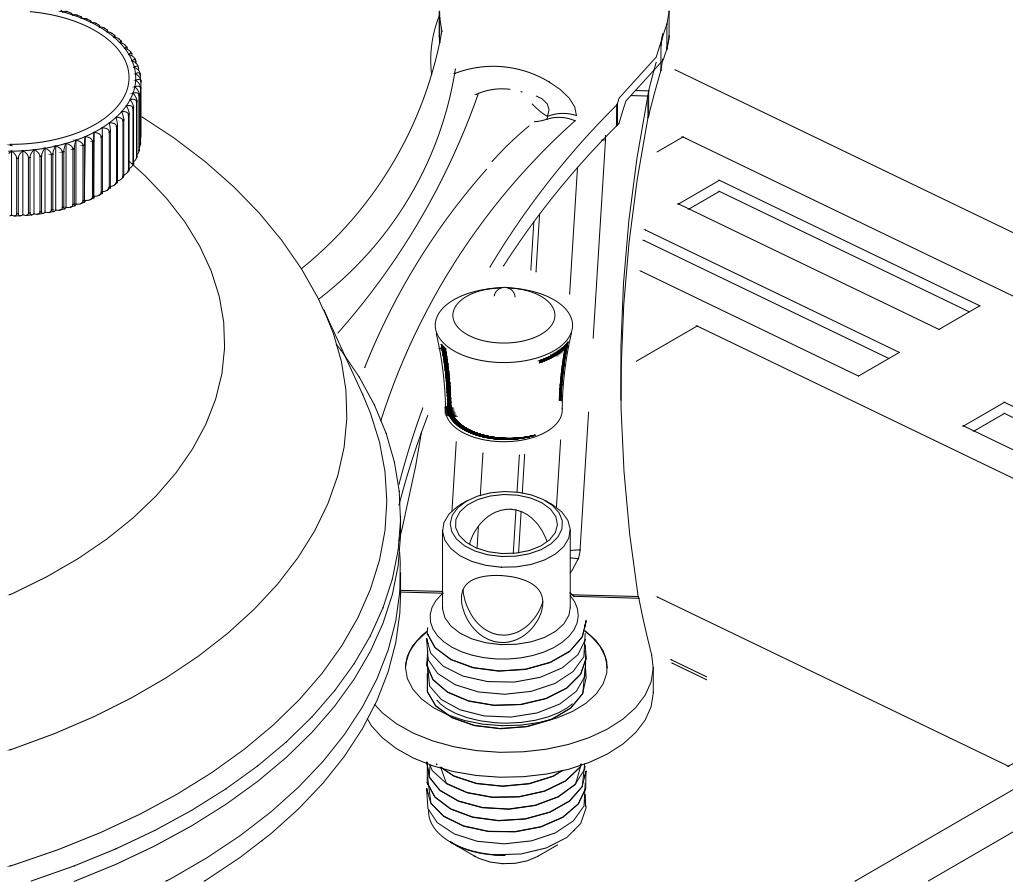

Figure 8. Plastic Cap Installation
Step 1. Once all the final adjustments have been finished install the plastic caps on the leveling barrels (Figure 8).